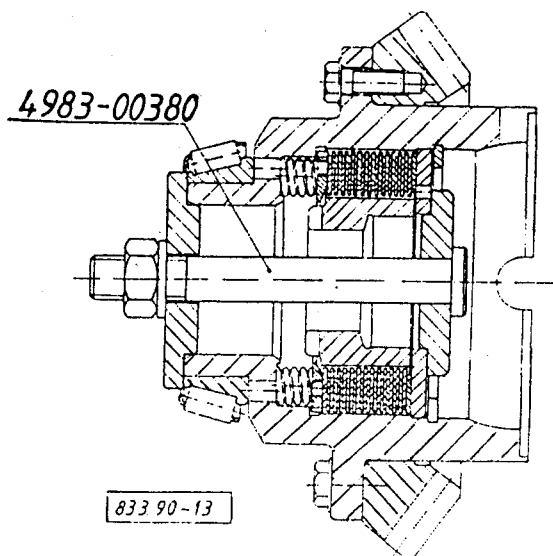

Fig. 1.:
By means of the device shown, pull the disks together to bottom out securing the spring force and remove the snap ring (47). (Fig. 1.).